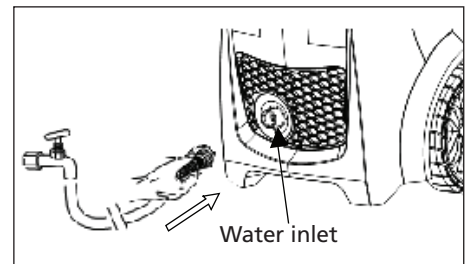

Figure 14 - Attach garden hose to unit (models PW1625 and PW1835)
7. Attach garden hose to unit (see Figures 14 and 15).